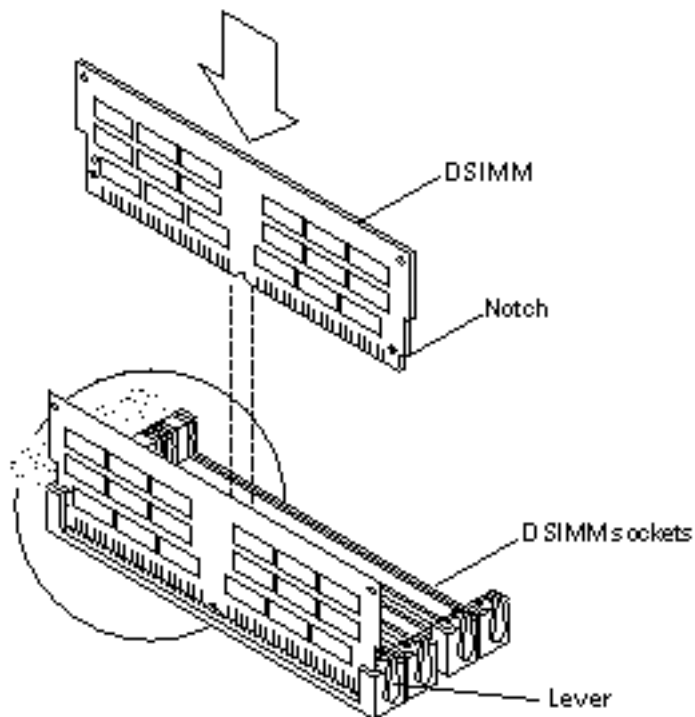

Figure 2-21 Replacing a DSIMM
2. Position the DSIMM in the socket so the notch is on the same side as the lever (Figure 2-21).
3. Insert the DSIMM into the socket by pushing it down at both ends until it is fully seated in the socket (Figure 2-21).